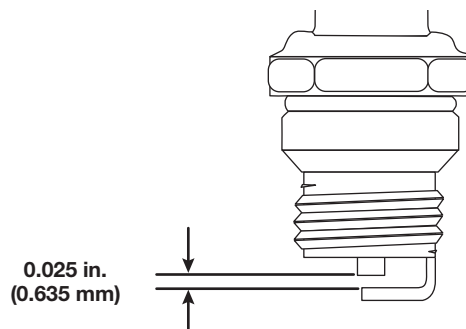

Fig. 20
4. Use a feeler gauge to set the air gap at **0.025 in. (0.635 mm)** (Fig. 20).